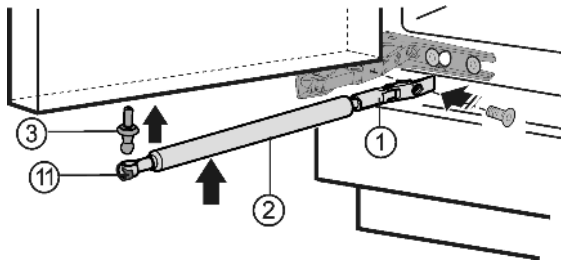

Fig. 6
- ▶ Screw the ball stud *Fig. 6 (3)* firmly into the new fastening hole **(with 4 Nm)** (Torx® 25).
- ▶ Push tension spring *Fig. 6 (11)* inwards again.
- ▶ Screw on the bracket *Fig. 6 (1)* **tightly (3 Nm)** anschrauben.
- ▶ Attach soft stop mechanism *Fig. 6 (2)* to ball stud.